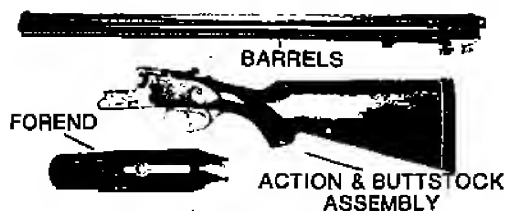

FIGURE 5—MAIN COMPONENT PARTS
3. See Figure 5. Grasp the barrels in one hand and the action in the other. Insert the cam between the barrels into the matching opening in the action. Make sure the cam is fully seated on the action pivot pin by pushing barrels down and forward.